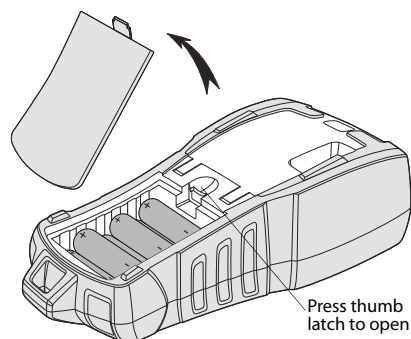

Figure 2
1. Press the thumb latch on the back of the printer to remove the battery compartment cover. See Figure 2.
2. Insert the batteries into the battery compartment. See Figure 2.